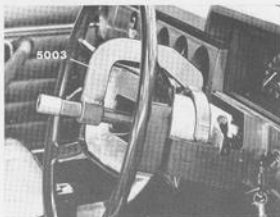

Fig. 6-51. Removing steering wheel
4. Set the wheels straight forwards. Fit steering wheel puller 5003 according to Fig. 6-51 and pull off the steering wheel.